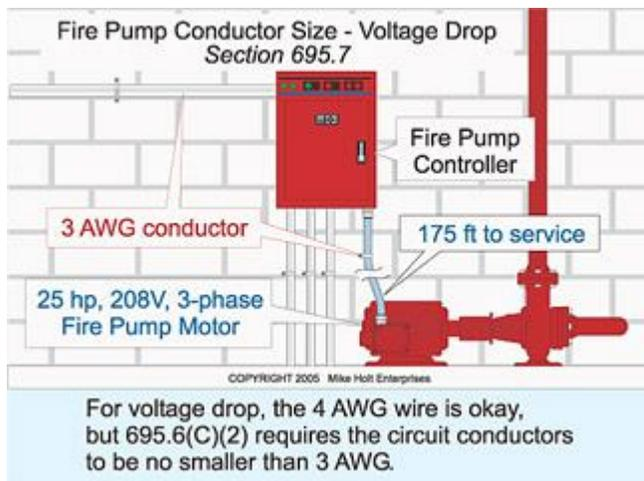

Fig. 3. For voltage drop, the 4 AWG wire is okay, but 695.6(C)(2) requires the circuit conductors to be no smaller than 3 AWG.
For voltage drop, the 4 AWG wire is okay from the controller to the motor, but 695.6(C)(2) requires the branch-circuit conductors to be sized not smaller than 3 AWG (**Fig. 3**).